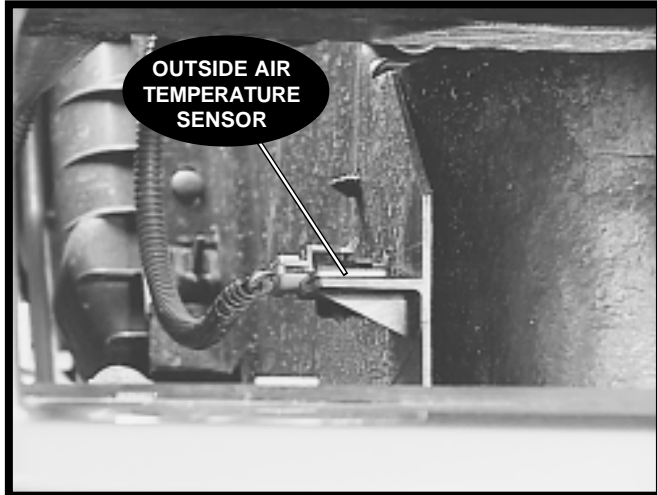

Figure 5-13, Outside Air Temperature Sensor
- The outside air temperature sensor is at the front fascia (figure 5-13)